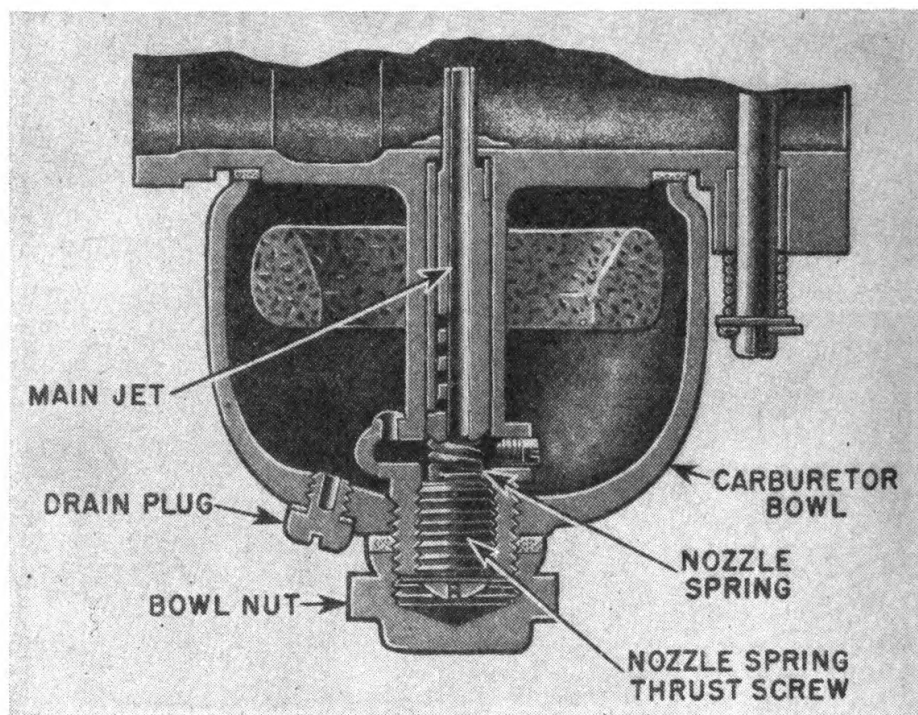

FIGURE 87.—Cutaway view showing nozzle spring thrust screw.
b. Shaft-driven motorcycles use the same type of plain tube carburetors as the late chain-driven models. However, a nozzle spring thrust screw (fig. 87) has been added to the carburetor bowl. This screw holds the main jet or nozzle in place when the bowl nut is